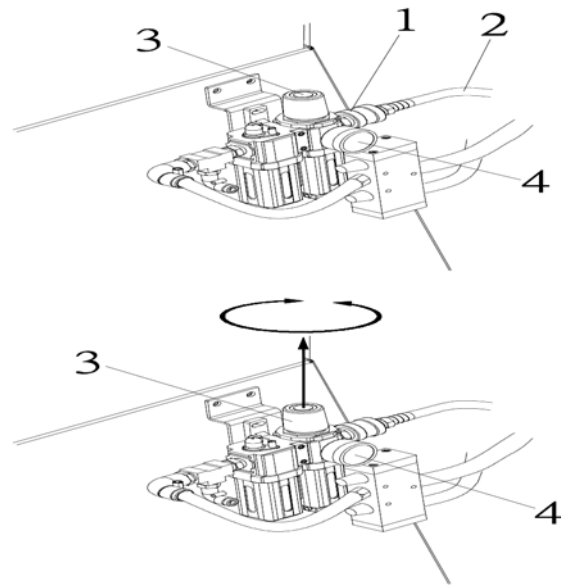

Fig. 9: Compressed air unit
After connecting the compressed air to the local supply, check that there are no leaks in the air circuit at hoses 2 and connectors 1 (Fig.9).
- Turn the adjusting handle of the pressure regulator (Pos. 3, Fig. 9) of the compressed air supply unit until the required pressure is set. Check the set pressure on the pressure gauge (Pos. 4, Fig. 9).